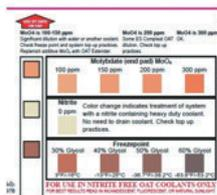

Fig. 1
1. Molybdate, nitrite and freezepoint strip (Fig. 1)